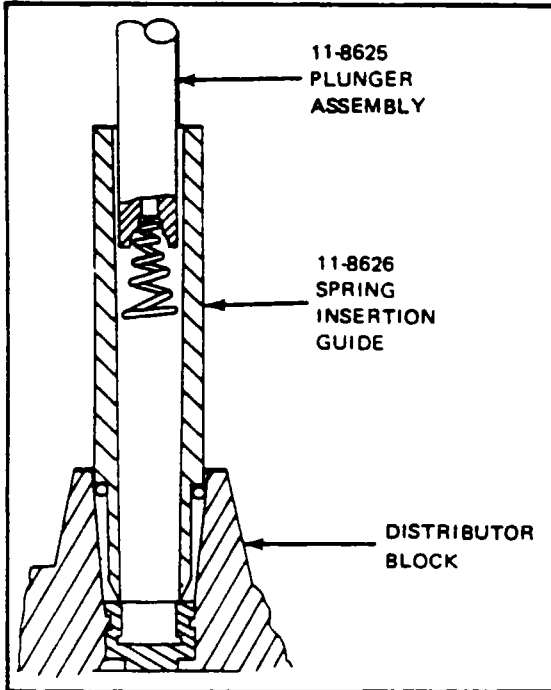

Figure 8-35. Position of 11-8627 Kit and Contact Spring at Start of Installation
- f. When lead being replaced is of the elbow type, salvage the used elbow and compression springs for installation on replacement lead. Install these and new sleeve and contact spring (refer to Figures 8-35 and 8-36) furnished with replacement lead per instructions given in Steps a thru d.